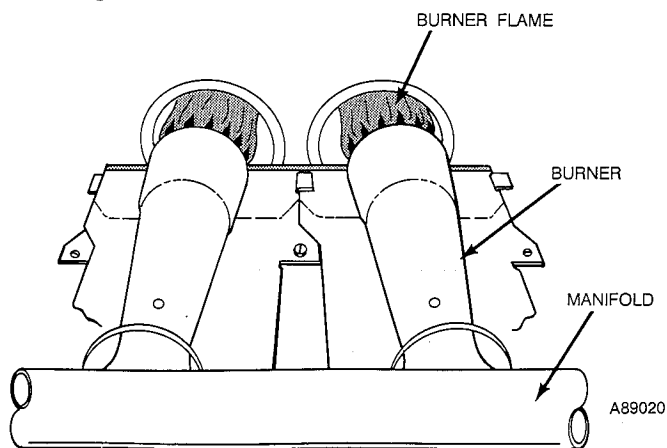

Fig. 18—Burner Flame
- (3.) When correct input is obtained, replace regulator seal cap. Main burner flame should be clear blue, almost transparent. See Fig. 18.